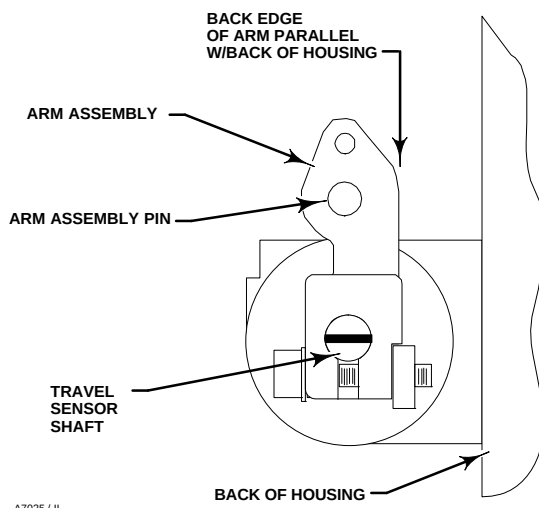

Figure 5-3. FIELDVUE DVC6020 SIS Travel Sensor Arm/Housing Back Plane Alignment
- See figure 5-4 for parts identification. Disconnect the bias spring (key 82) from the feedback arm assembly (key 84) and the arm assembly (key 91). Remove the mounting bracket (key 74) from the back of the digital controller. Hold the arm assembly (key 91) so that the arm assembly points toward the terminal box and the arm is parallel to the back of the housing, as shown in figure 5-3.